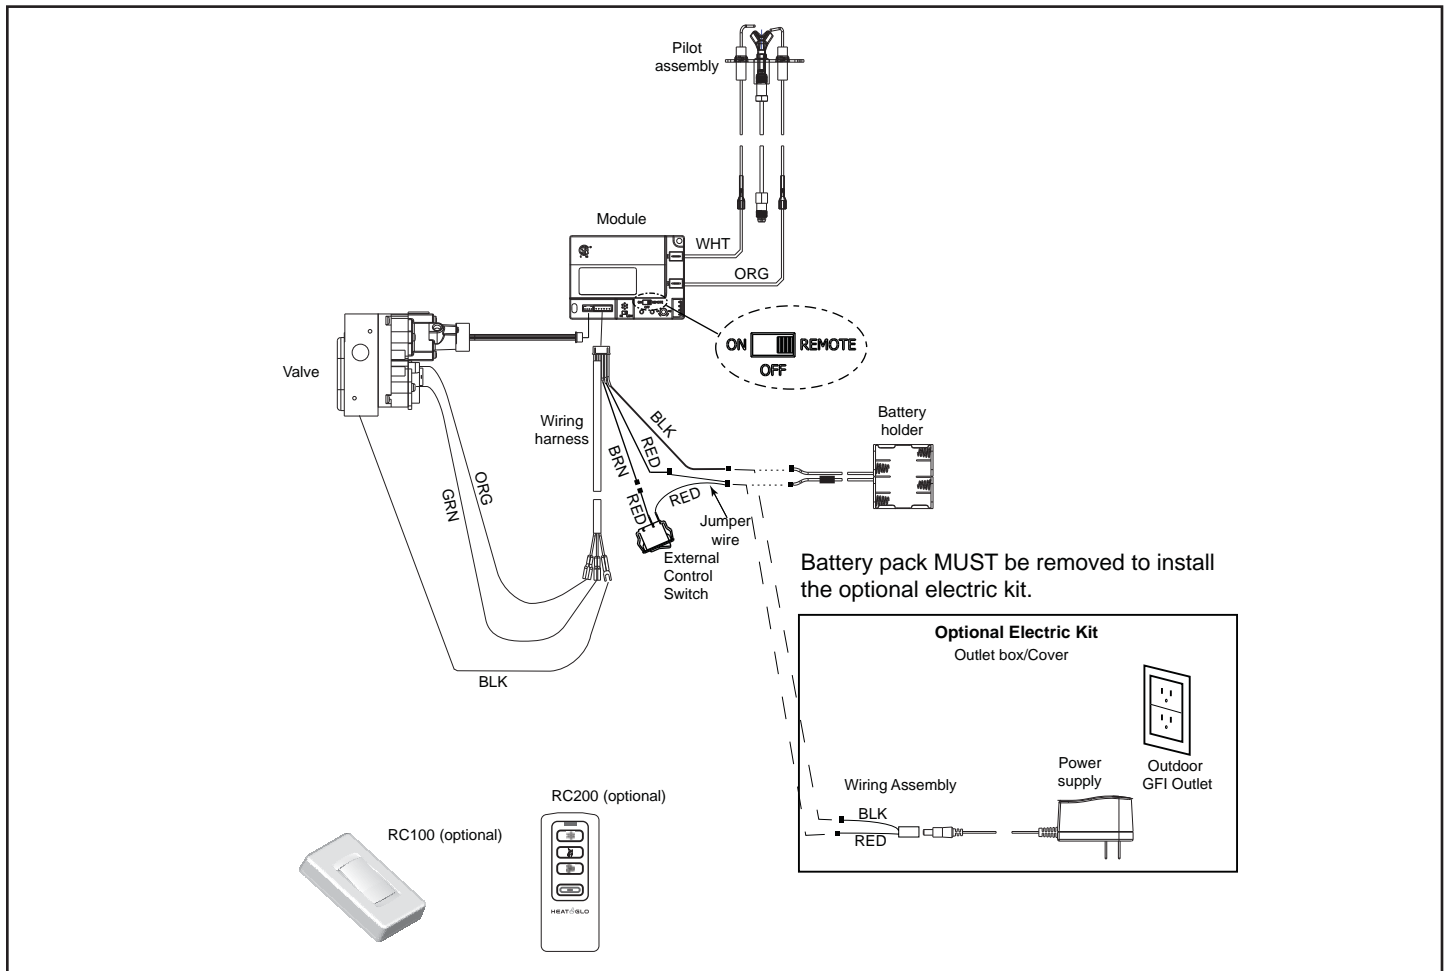

Figure 6.1 Intermittent Pilot Ignition (IPI) Wiring Diagram
- This appliance is supplied with a battery pack which is located in the control box. A wiring diagram is shown in Figure 6.1.
- The module should be in the REMOTE position when using the switch preinstalled in the control box lid when using the RC100 wireless wall switch. Putting the switch in the OFF position will disable all fireplace controls. See ON/OFF/REMOTE inset, Figure 6.1.
1. The control module has an ON/OFF/REMOTE selector switch that must be set. See Figure 6.1 and 6.2.
- Disconnect the battery holder wires from the red and black wires of the wiring harness from the switch and module. Connect the red and black wires of the wiring assembly included with the electric kit to the red and black wires to the switch and module. Plug the power supply wire into the wire assembly and then into the outlet. Refer to Figure 6.1.